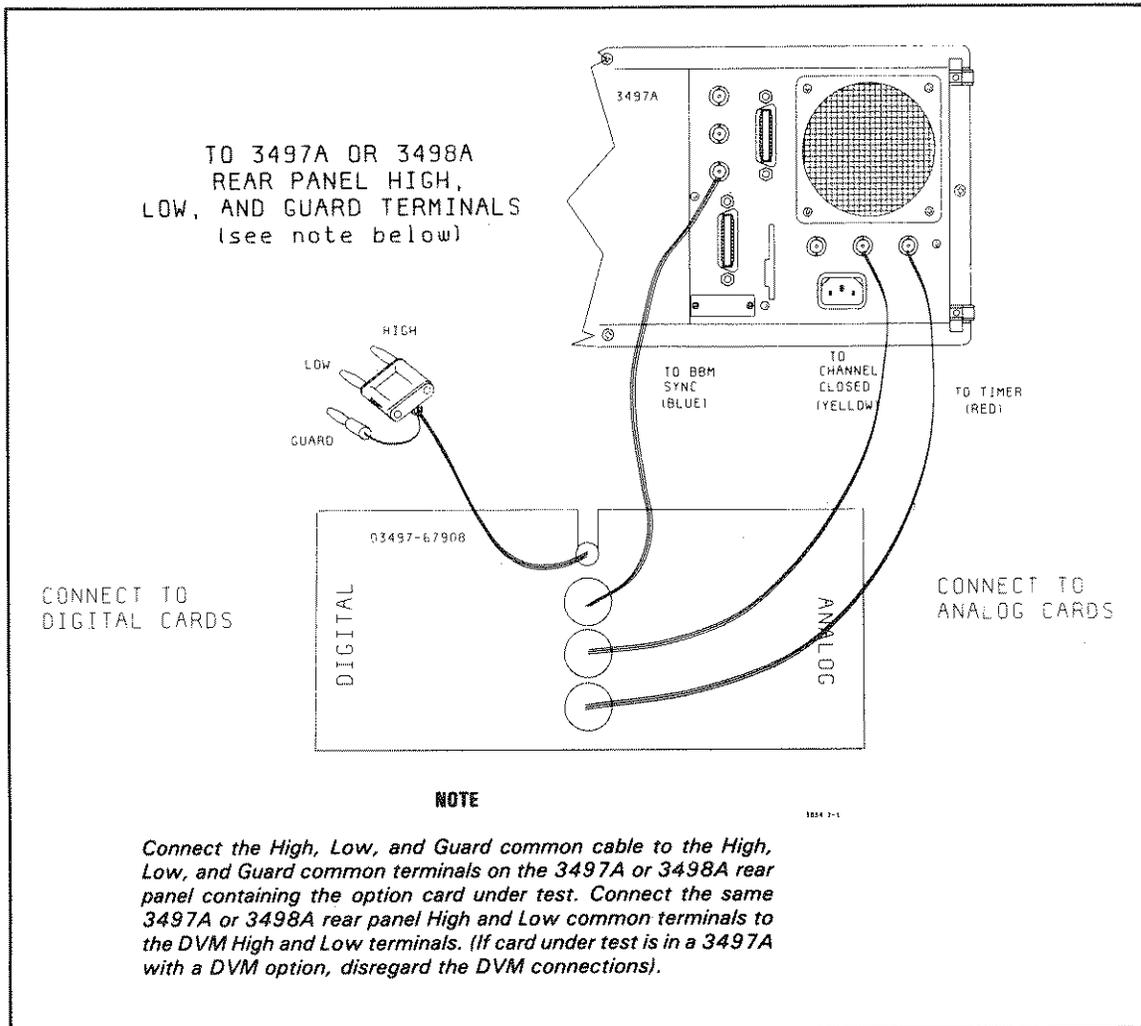

Figure 4-1. Verification Connector
c. Insert the Verification Connector Card (03497-67908) in place of the removed terminal card according to the instructions on the card and the drawing in Figure 4-1. Use the digital end of the Verification Connector. Follow the drawing closely to assure that the Timer, Channel Closed, BBM Synch, and voltmeter cable are correctly connected.